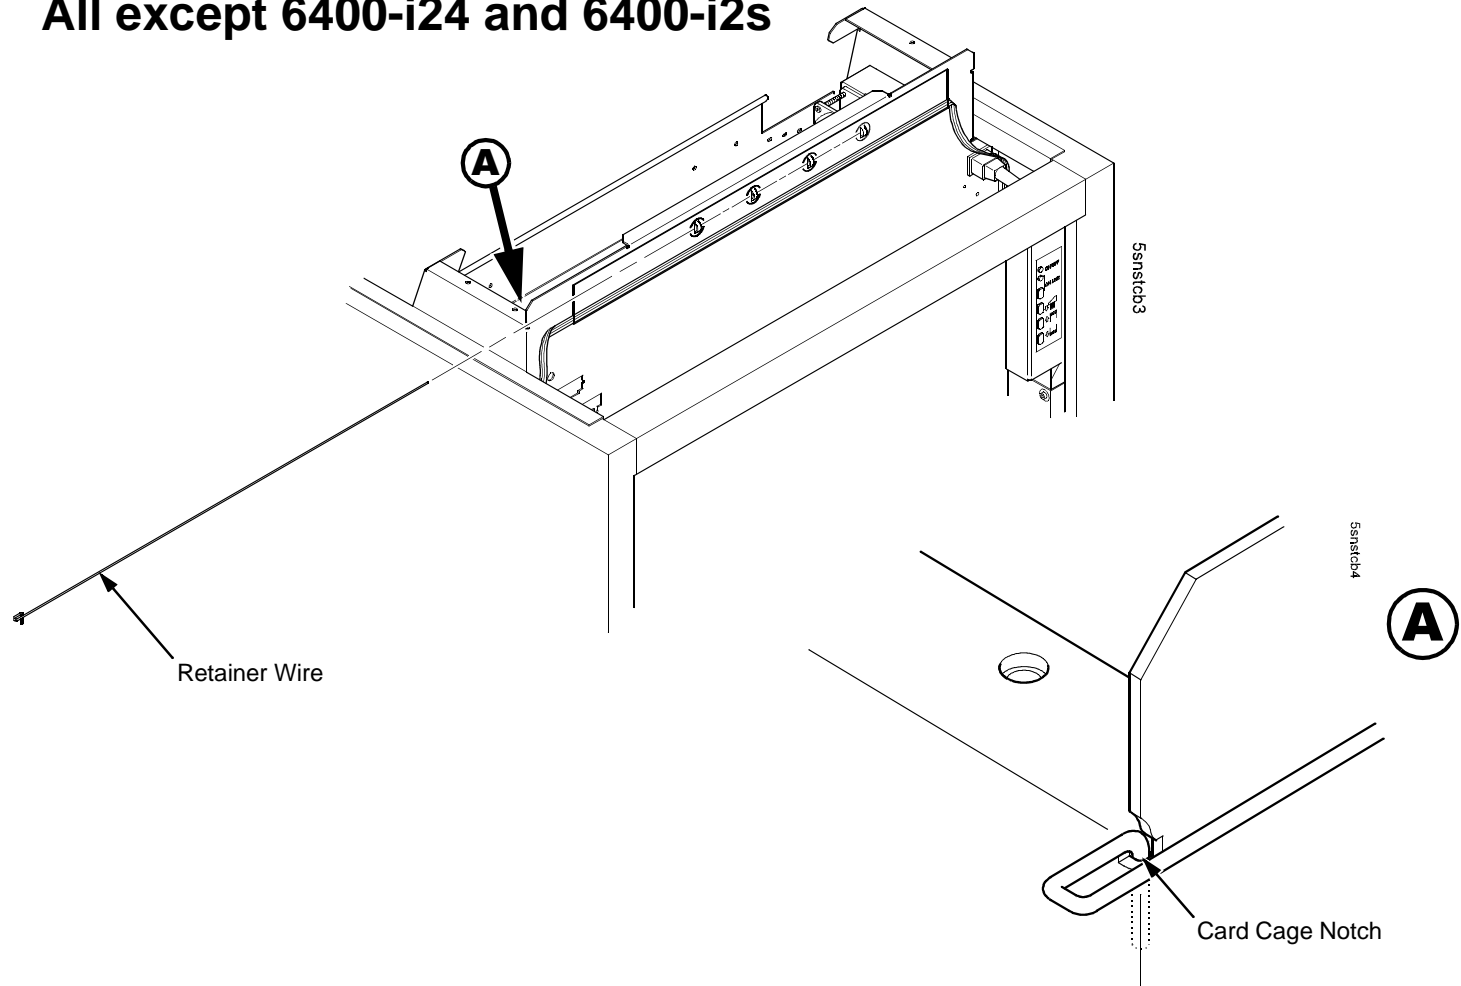

Figure 87. This figure shows how to install the cable routing guide retainer in the cable routing guide on printers using the CMX or CFX controller board.
13. Slide the retainer wire over the cable routing guide and through the four chain hooks. (Figure 87.)
14. Insert the bent end of the retainer wire into the card cage notch. (Figure 87, detail.)